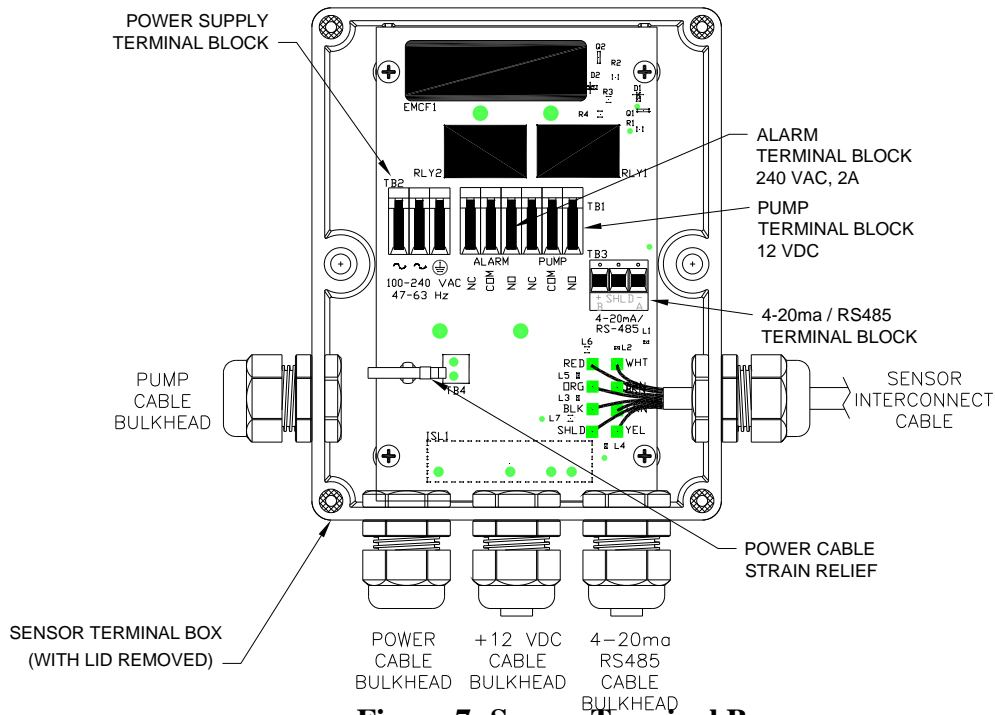

Figure 7: Sensor Terminal Box
3.3.2 RS-485 (optional): The connection for the RS-485 may be made in the sensor terminal box (see figure 7). The RS-485 Modbus or special protocol half-duplex (2-wire) digital interface operates with differential levels that are less susceptible to electrical interferences. This is why cable lengths up to 3000 ft can be implemented. The last device on each bus may require terminating with a 120-ohm resistor to eliminate signal reflection on the line. Do not run RS-485 cables in the same conduit as power.
3.3.3 Relay: Connections for the relay are located in the sensor terminal box (see figure 7). The Alarm relay is a mechanical relay rated at 240 VAC 2A. Please note that the relay is labeled NO (Normally Open), NC (Normally Closed) and C (Common). As this alarm is configured fail-safe, the normal condition is with power applied to the AccUView Wastewater and in a non-alarm condition. Operation of this alarm is covered in section 7.4 Configuring the Alarm.
3.3.4 4-20 mA: Connection to the 4-20 mA is made inside the sensor terminal box (see figure 7). The 4-20 mA output is driven by a 15 VDC power source and can drive recorder loads up to 600 ohms. Do not run 4-20 mA cables in the same conduit as power. Operation of this output is covered in section 7.2 Setting the 4-20 mA. The outputs are equipped standard with an installed looped powered isolator (500V isolation).